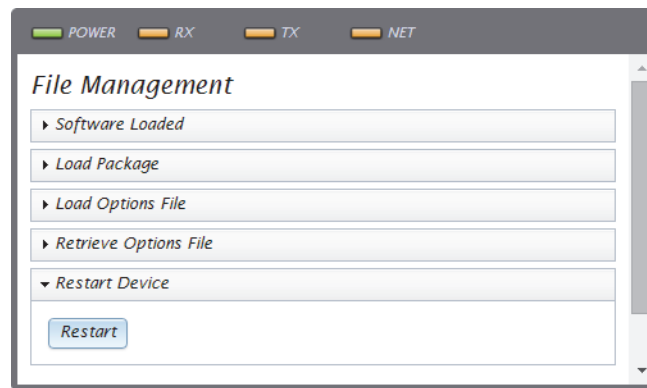

Figure A-7. File Management Default Page
9. Click **Admin** to open the File Management default page. See Figure A-7.